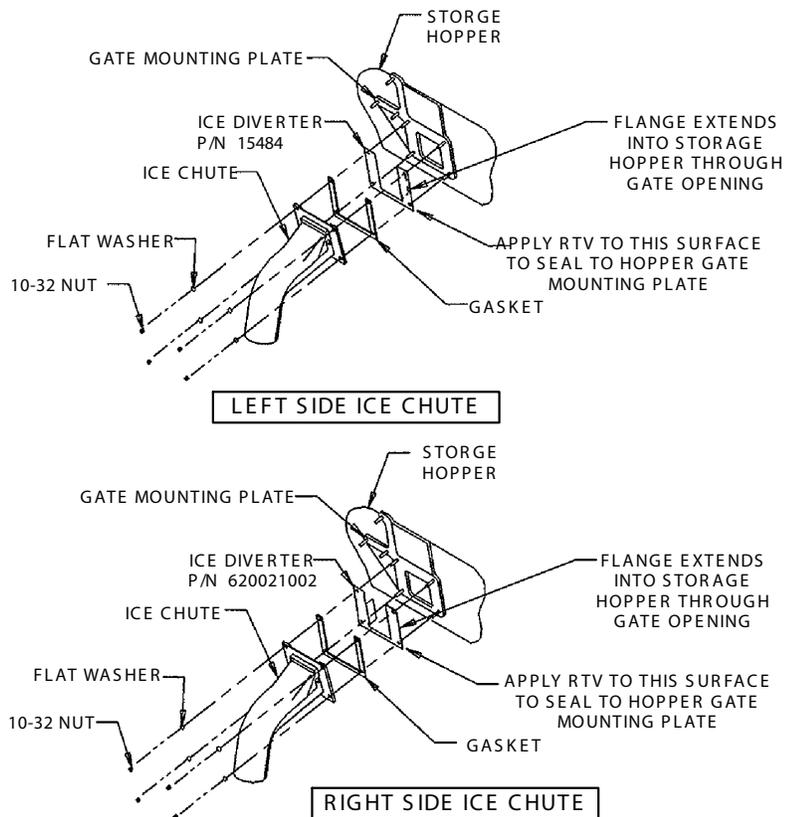
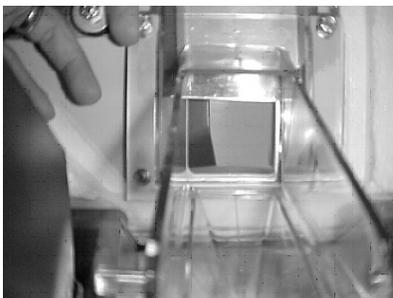

Figure 1. Exploded View of Ice Diverter Installation
Figure 2. Gate Restrictor with 1 ½” Opening
3. Install ice diverter as shown (see Figure 1.) and reinstall the gate restrictor removed in previous step. Gate restrictor should be installed in ‘front’ of ice diverter. It is critical the opening be set a minimum of 1 ½” (see Figure 2.).